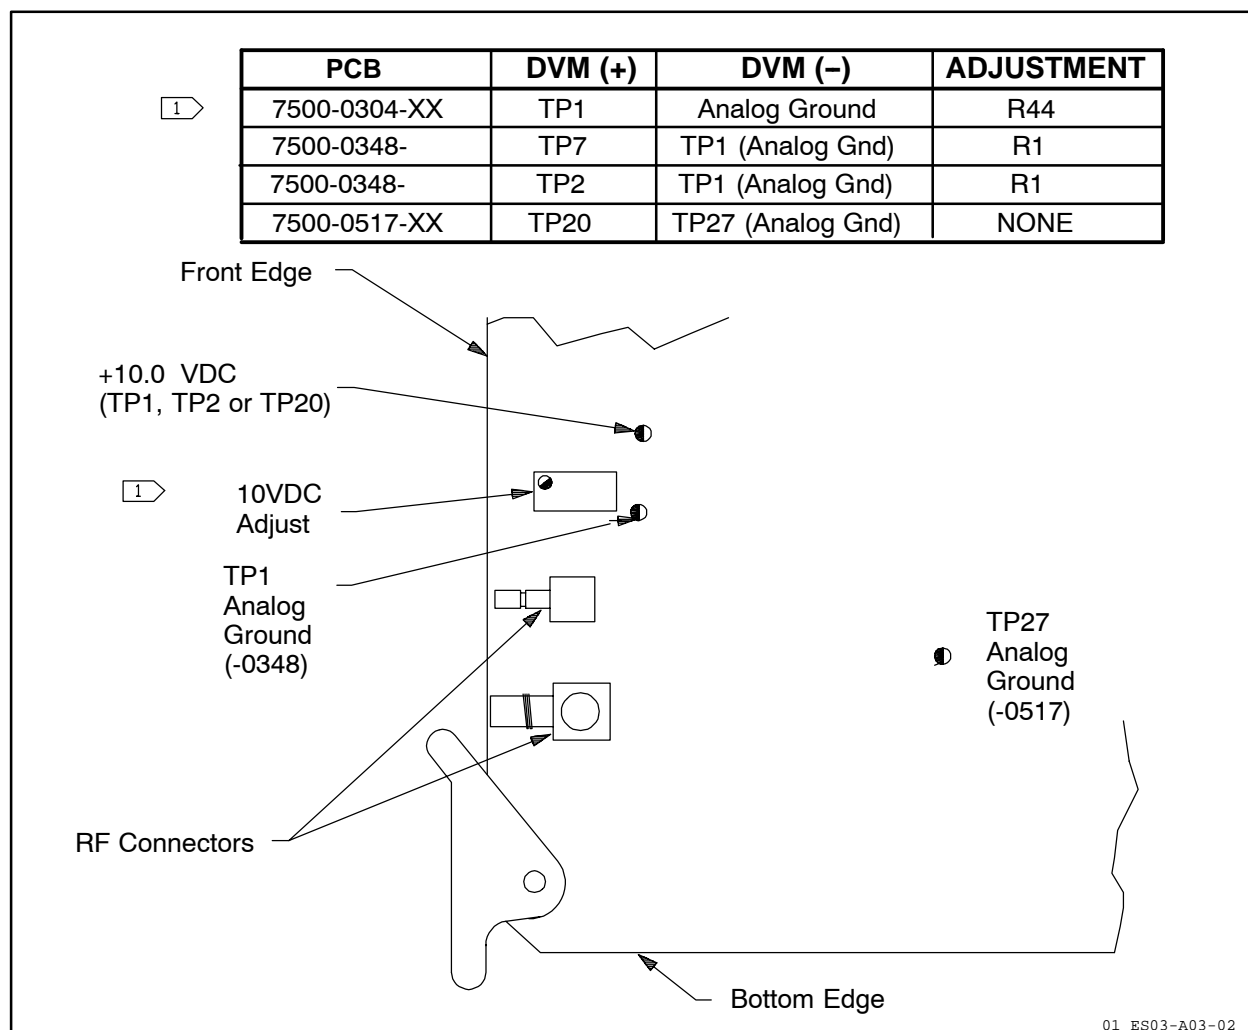

Figure 3-3. Motor Controller Adjustments
3-4 Motor Controller (Figure 3-3) 7500-0348-XX
2. Connect DVM micro clips to 10.0V test point and ground on PCB A8, Motor Controller PCB (Figure 3-3).